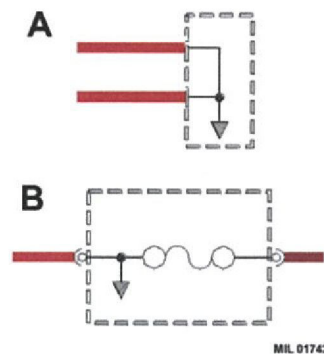

Fig 7 Line types II
19 The "cup and ball" symbol indicates the male and female halves of the connector (refer to Fig 7).
19.1 Plug on lead, fly lead (Fig 7 (A)), wired directly to the component.
19.2 Connector plugs directly into circuit (Fig 7 (B)).